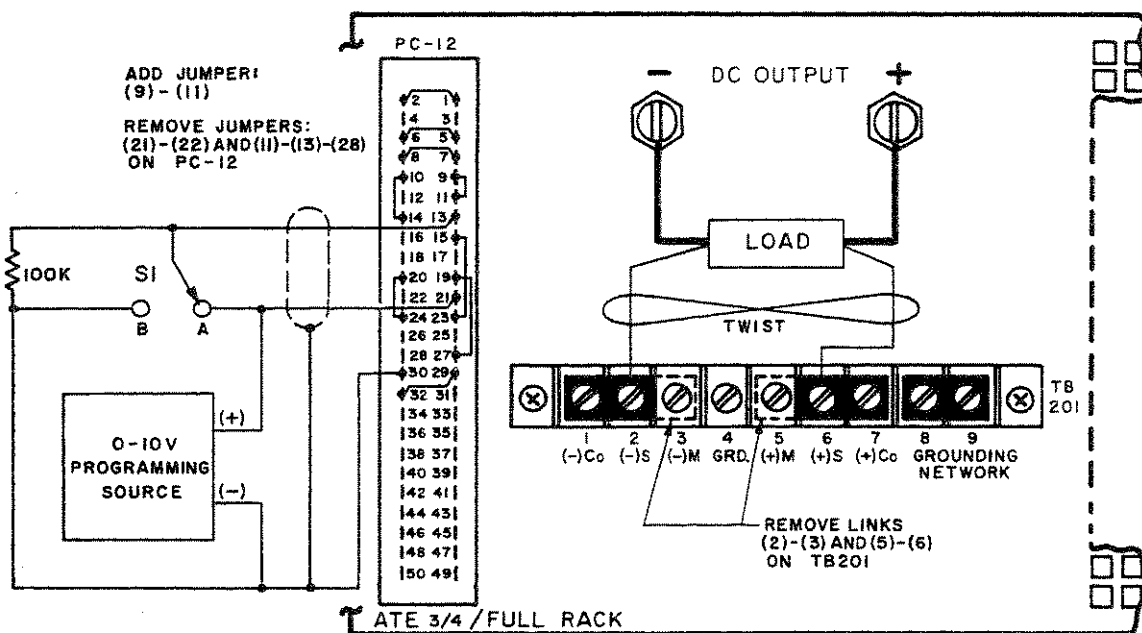

FIG. 3-15 CONNECTIONS FOR SIMULTANEOUSLY PROGRAMMING THE ATE OUTPUT VOLTAGE AND THE CROWBAR LEVEL (AUTOMATIC TRACKING).
- 1) Connect jumpers on the REAR PROGRAMMING CONNECTOR as indicated in FIG. 3-15 and connect switch (S1) as shown. Turn front panel CROWBAR LEVEL control fully counterclockwise.
- 2) Connect a substitute LOAD and the EXT. PROGRAMMING SOURCE as shown in FIG. 3-15.
- 4) Remove S1, and connect a jumper between (13)-(21) of PC-12. Connect the actual LOAD, reactivate the ATE circuit breaker and commence operation. Should erratic triggering occur in actual operation, set front panel CROWBAR LEVEL control slightly clockwise. This will increase the "threshold" voltage; that is, the difference voltage between the crowbar level and the operating voltage.
- (1) For operation with the ATE in "FAST" mode, all connections shown in FIG. 3-15 are valid, for both "SLOW" and "FAST" operating modes, except as follows: